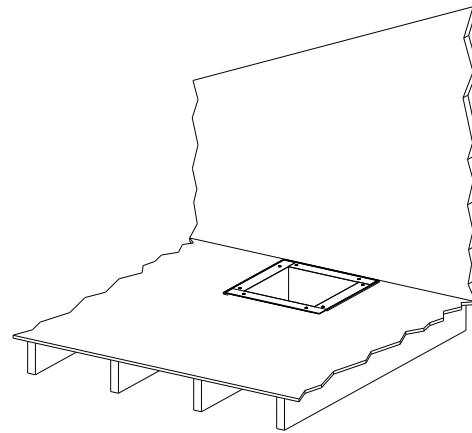

Fig. 2 – Add Plenum and Ductwork
- 2 Apply a bead of UL 181 rated caulk or approved duct mastic around the perimeter of the hole, and install the plenum and make appropriate connections to the ductwork. See Fig 2.